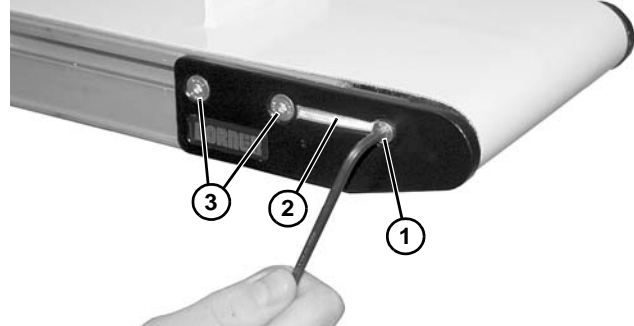

Figure 100
1. On one side of the conveyor, remove screw (Figure 100, item 1) and remove dust cover (Figure 100, item 1), if installed.
2. Remove two fastening screws (Figure 100, item 3).